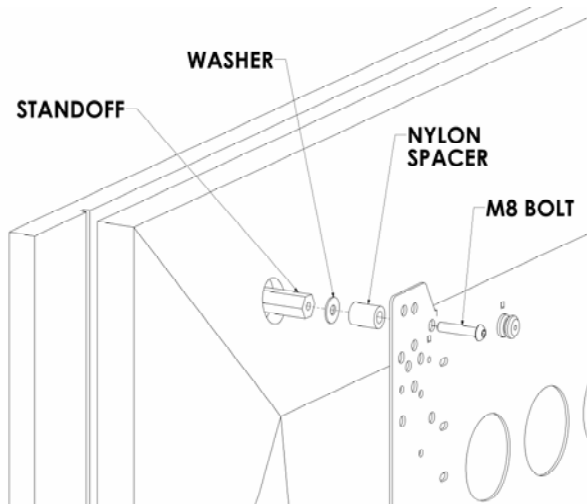
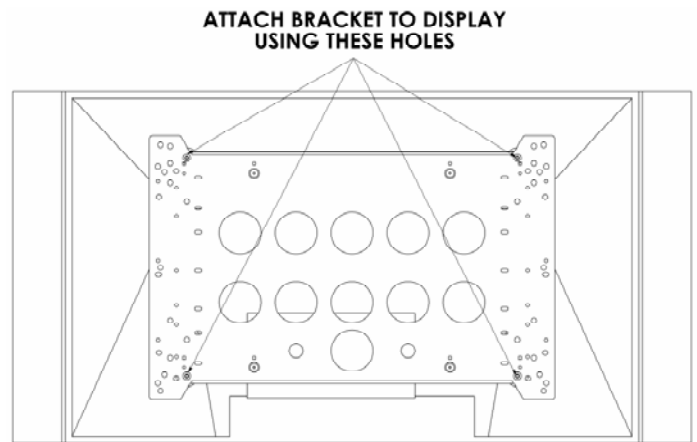

Figure 4
Figure 5
3. Secure the mounting brackets to the display using the M8 screws (see Figure 4 & Figure 5).